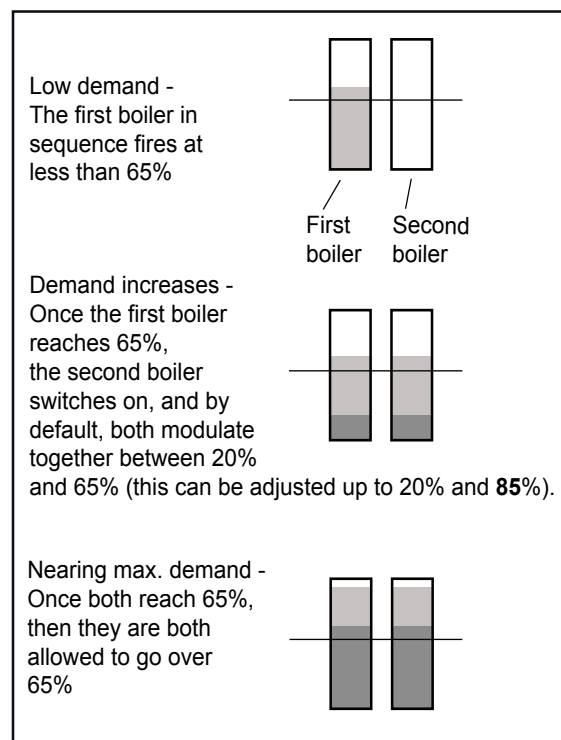

Figure 40. Lead Lag Operation, 2 boilers.
- If the heating demand increases so that the firing rate of that first boiler rises to your boiler configurations Base Load Value (**see Figure 40 or Figure 42**), the next boiler in the sequence will start up and begin firing at 20 to 35% fan speed (depending on your configuration). After this, the entire configuration of boilers will modulate up or down together, in reaction to the changes in demand.